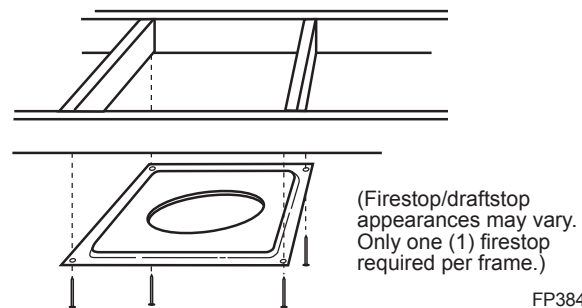

Fig. 12 Firestop/draftstop positions.
For firestop positioning, refer to Figure 12. Only one (1) firestop required per frame. **NOTE:** A firestop is not required at the roof.